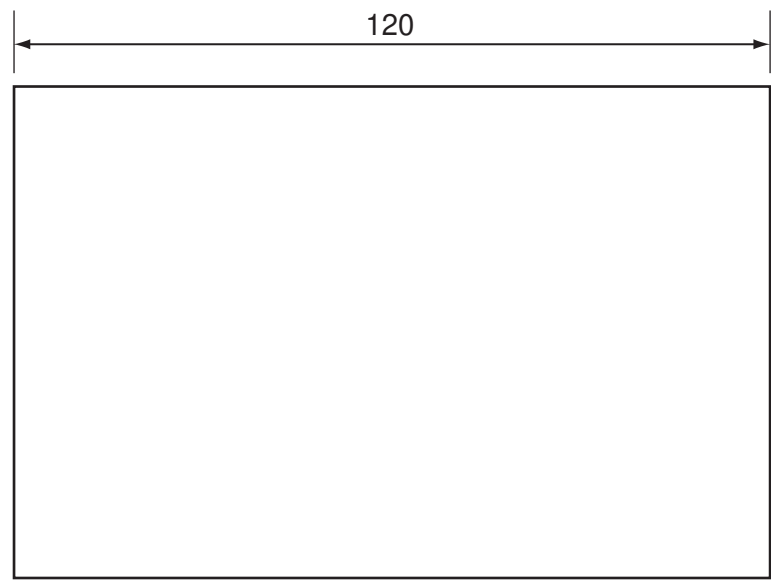

Fig. 13
- (c) Fig. 13 shows the steel sheet from which the bracket will be made.
Draw the flat shape of the bracket before bending and the positions for the holes on Fig. 13.